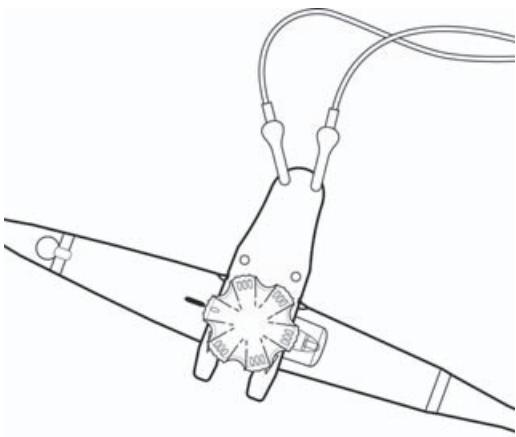

Figure 7 Puncture test tool attachment
- b** Connect the red leads to the puncture test tool as shown in Figure 7.